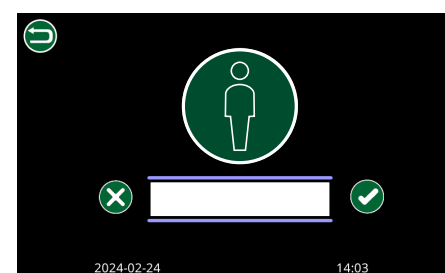

Figure 19. Patient measurement screen
- A new page will appear. See Figure 19.